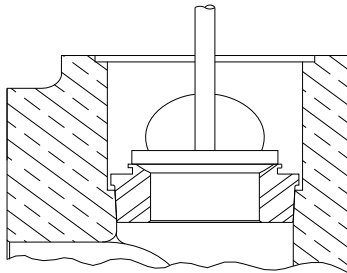

Figure 26
- e. With a bar and a driver, drive seat in place with two or three sharp blows. **NOTE!!** Seat does not have to be completely seated. Pump start-up pressure will drive seat home. See Figures 26 - 27.
- f. Install valve, spring(s), and spring retainer. See Figures 26 - 27.